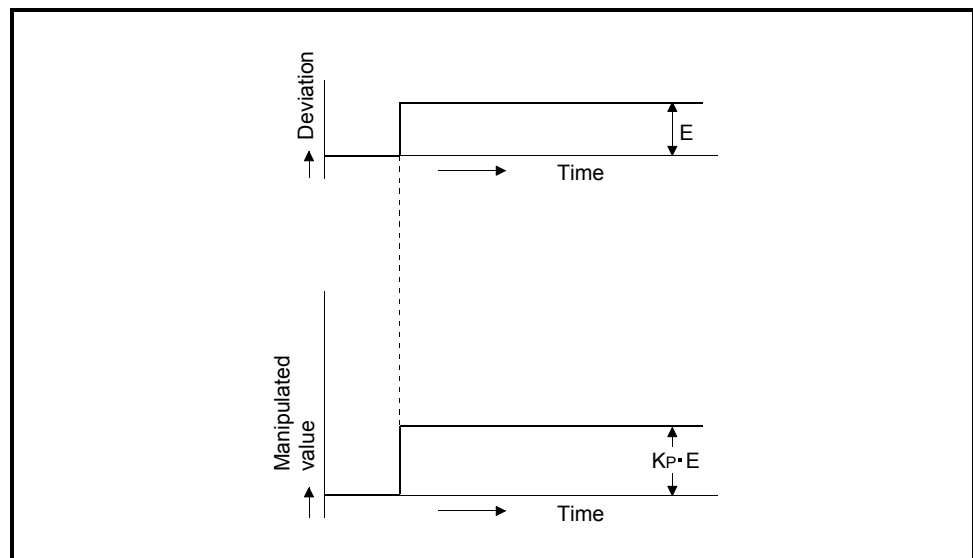

Fig. 1.7 Proportional action for step response
- (3) The proportional action for the step response when the error value is constant is shown in Figure 1.7.
- (4) The manipulation value changes between -5.0% and 105.0%. As the K_P increases, the manipulation value for the same error value becomes larger, and the corrective action becomes stronger.
- (5) The proportional action will generate an offset (remaining deflection).